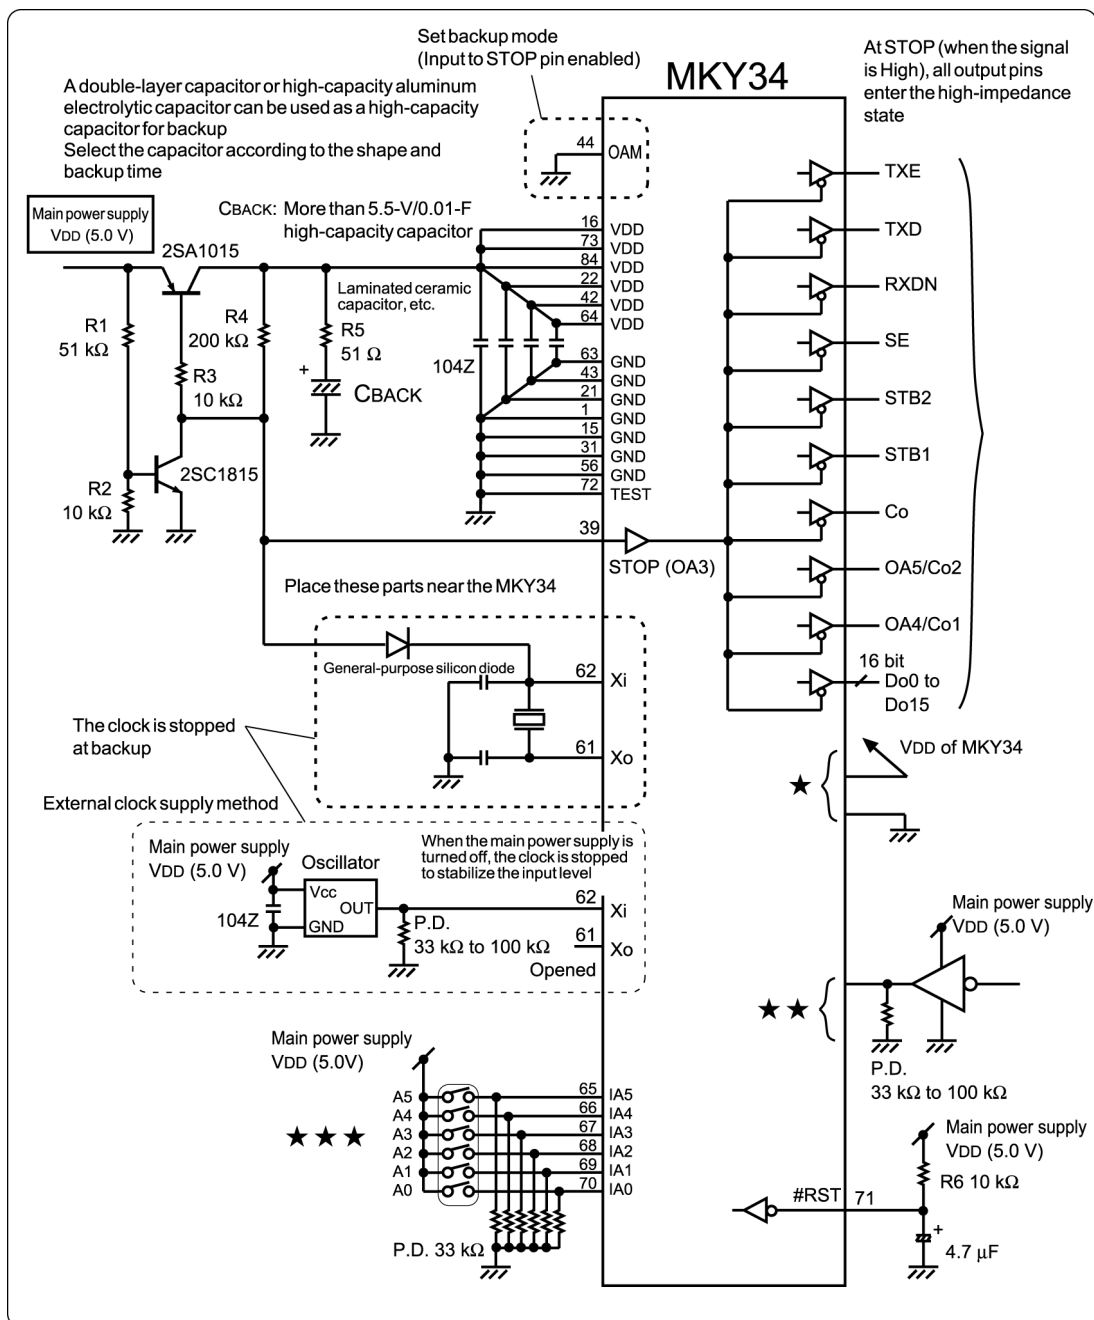

Fig. 4.18 Conceptual Diagram of Peripheral Circuits for MKY34 Battery-backup
When a High-level signal is input to the STOP pin (pin 39) while the OAM pin (pin 44) is Low, the values of the 6-channel 16-bit binary up-counter and the SDR can be kept in the MKY34 by the backup-battery power. Figure 4.18 shows a conceptual diagram of the peripheral circuit for battery-backup of the MKY34.
- (1) Stop clock input in the Xi pin (pin 62) to reduce consumption current.
- (2) Fix the unused input pin (indicated by ★ in Figure 4.18) at non-active level (High or Low). Pins that keep High keep even when the main power supply is turned OFF, connect it to the VDD pin of the MKY34 where battery voltage is applied, instead of to the VDD pin of the main power supply.
- (3) Insert a pull-down resistor so that the input pin (indicated by ★★ in Figure 4.18) where a signal from a component driven by the main power supply is connected does not enter the high-impedance state even if the main power supply is turned OFF.
- (4) Design so that the input pins (indicated by ★★★ in Figure 4.18) connected to mechanical switches such as the IA0 to IA5 pins are kept Low by pull-down resistors when the switches are open.